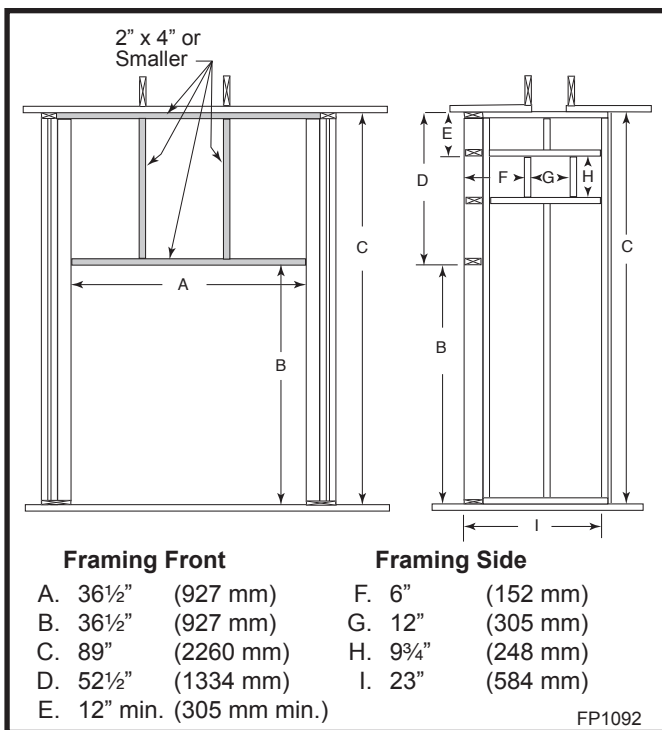

Fig. 25 Suggested dimensions and framing for side-venting the air ducts of the chase.
3. Remove the two (2) screws holding each of the cover plates onto the top heat shield below the white insulation. Remove the cover plates.
5. Reach down through the flex pipe collar and bend the three (3) tabs to hold the collar in place above the top heat shield.
6. Select the flex duct location. The flex ducts can vent through the side of the chase, through its front, or one each through both the side and the front. Either or both flex ducts may also be vented into a room behind, beside or above the room in which the fireplace is installed. The flex ducts must be installed at least 12" (305 mm) from the ceiling and no lower than 24" (610 mm) above the top of the fireplace. Figures 25 and 26 show construction dimensions for some of the common flex duct placements.